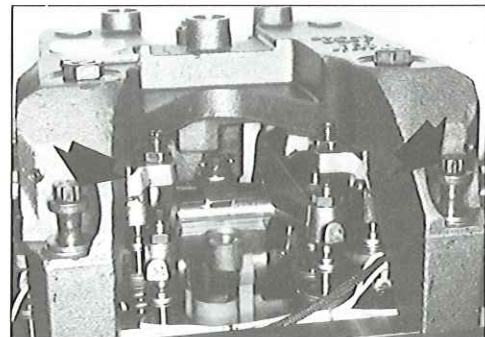

FIG. 18
- 4a. Install one washer onto each 4-3/4" (120 mm) long bolt and insert into brake housing on the exhaust manifold side (two per housing) (see Fig. 18).